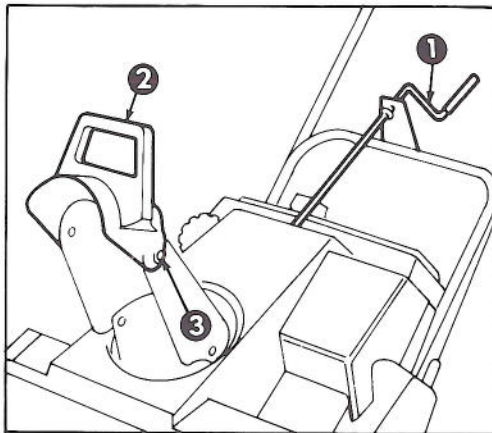

Figure 8
OPERATING TIPS (Fig. 8)
1. **ADJUSTING DISCHARGE CHUTE**—Rotate chute crank clockwise to move discharge chute to the right and counterclockwise to move chute to the left. Deflector handle on top of discharge chute is used to control the height of the snow stream. Do not over tighten deflector mounting nuts (Fig. 8) so excessive force is required to operate deflector.